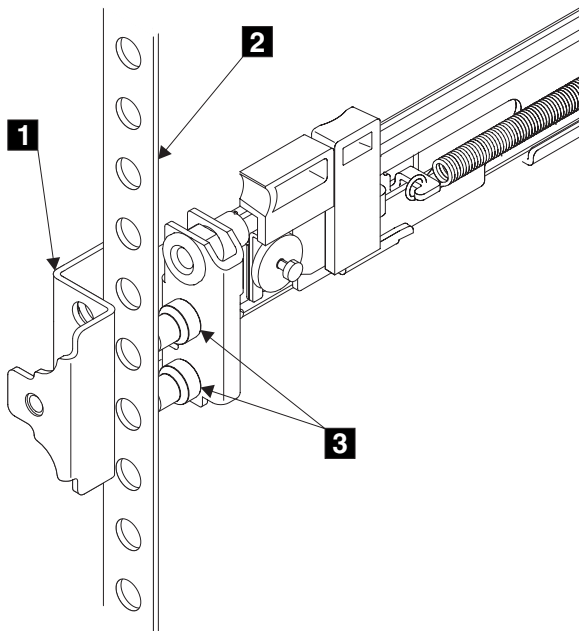

Figure 62. Installing the front end of the rail
6. Place the front end of the left rail in the rack cabinet. Align the top of the front bracket **1** (Figure 62) with the required EIA marking that is on the rack.